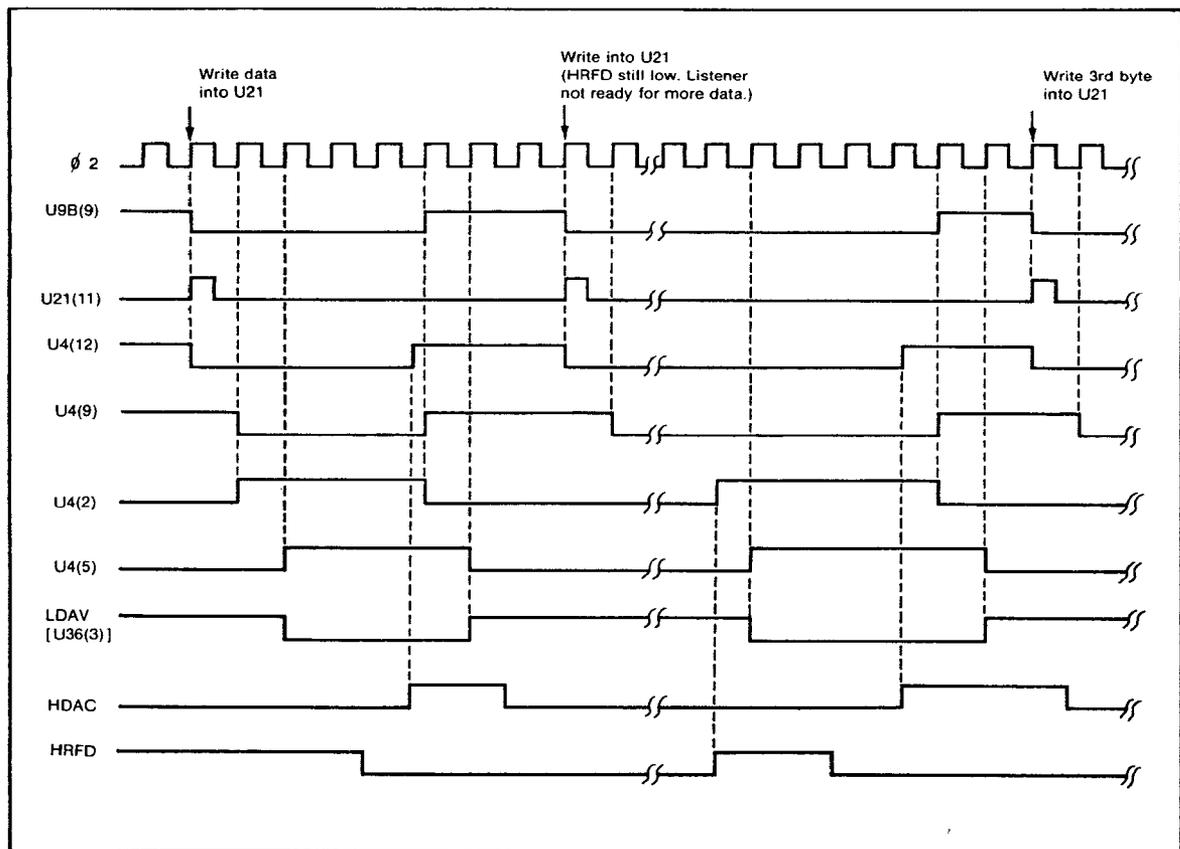

Figure 8-18. Source Handshake Timing Diagram
8-337. A timing diagram of a typical source handshake is shown in *Figure 8-18*. Since U9B(9) is high, the microprocessor clocks data into U21. This clock also resets U9B(9) low. U9B(9) going low causes the input to flip-flop U4B to go low, and U4B's output goes low on the next  $\phi 2$  clock positive transition. Since U4(9) is low and HRFD is high, the input to flip-flop U4A(2) goes high and the U4(5) output goes high on the next clock. When U4(5) goes high, LDAV at U36(3) goes low. Sometimes later the listener set HDAC high to indicate that the data has been accepted. HDAC going high causes the U4(12) flip-flop input to go high and the U4(9) output goes high on the next clock pulse. Since U4(9) is high and U4(5) is high, U12(6) goes high and sets the Data Ready flip-flop U9(9) to high. When U9B(9) goes high, U4(2) input goes low and causes the U4(5) flip-flop output to go low on the next clock. This causes LDAV to return high. After LDAV goes high, the listener reset HDAC low in preparation for the next handshake cycle. Since U9B(9) is high, the microprocessor writes the second data byte into U21. U21(11) going high resets U9B(9) to a low which sets the U4B(9) flip-flop output low. However, the source handshake logic can not indicate the presence of the second data byte (by pulling LDAV low) until the listener sets HRFD high. When HRFD finally does go high, the output of flip-flop U4(5) goes high on the first clock after HRFD goes high. U4(5) going high sets LDAV low. When the listener senses LDAV low, it sets HRFD low and the process continues as previously described.